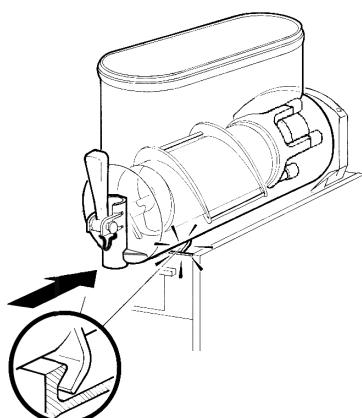

figure 15
- 7** Push the bowl towards the rear wall of the unit until it fits snugly around the gasket and its front fastening hooks are properly engaged (see figure 15).